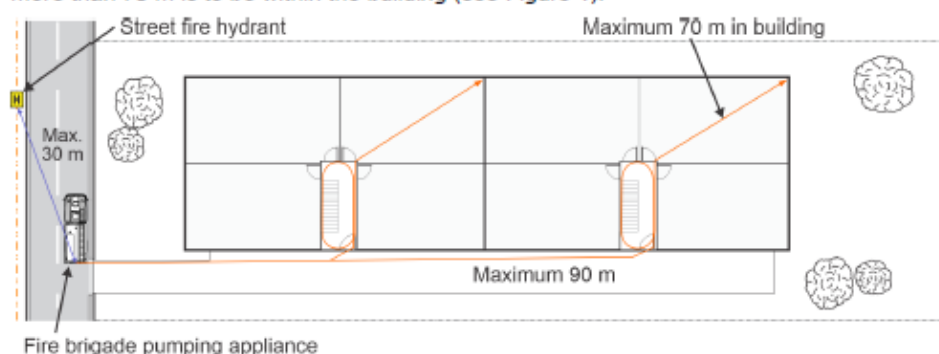

Figure 1 Example of fire hydrant coverage from a street fire hydrant
- 6.1.1 A street fire hydrant being used as the feed fire hydrant is to be located within 30 m of the positioned fire appliance (see Figure 1).
- 6.1.4 All portions of floor area are to be within 90 m of the positioned fire appliance, except not more than 70 m is to be within the building (see Figure 1).